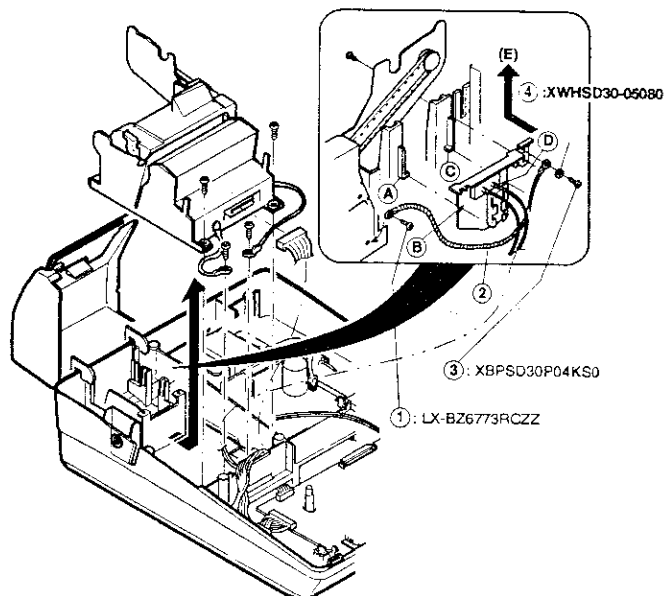

Fig. 2
#### 5) Installing the sensor unit. (Fig. 2)
Fix the other end of the grounding wire (2) to the screw (1) hole in the right rear side of the R/J printer. (Fig. 2)